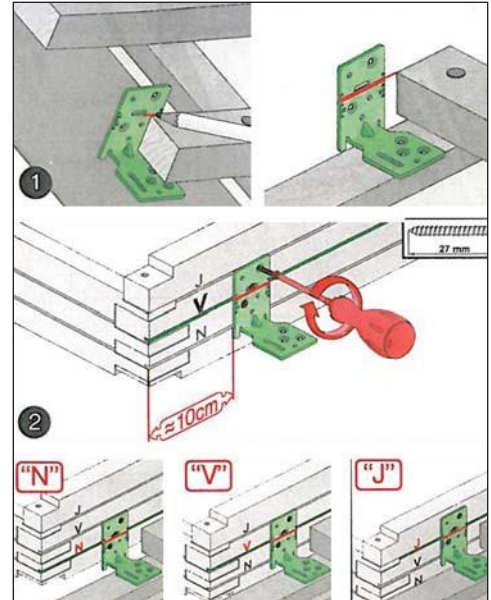

Fig 29
- 36) The top of the battens must line up with your groove marked V shown on the skylight frame (Fig 29).